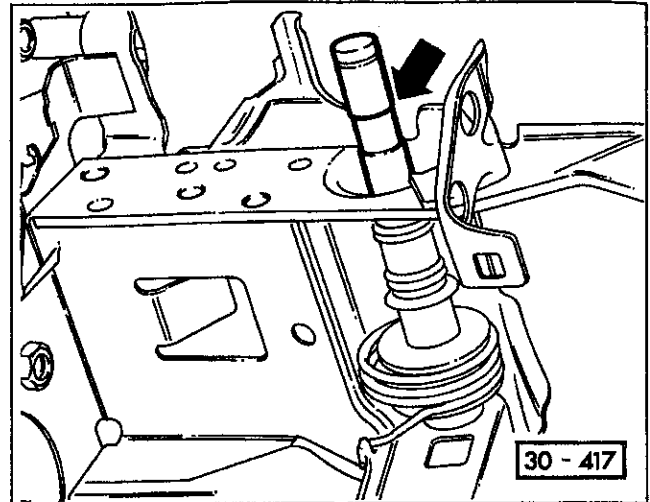

Fig. 5. Install pedal shaft so that narrow section of shaft (arrow) goes in on left side.
7. Install in reverse order of removal. Make sure the pedal shaft is installed with the narrow section on the left. See Fig. 5.